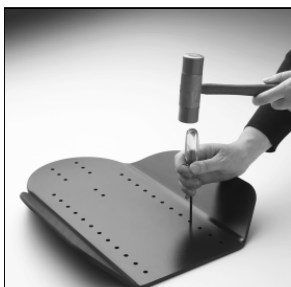
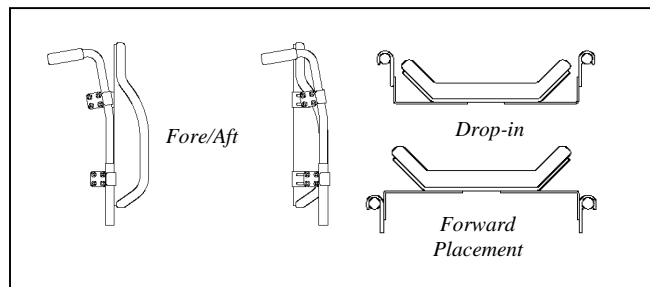
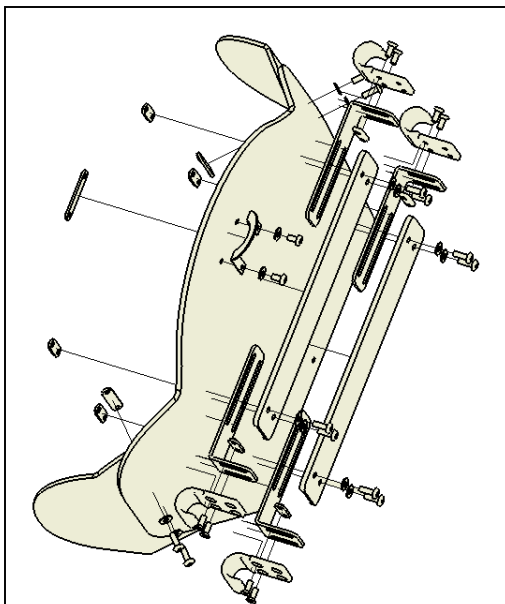

Figure 1
Figure 2
Figure 6
As seen in Figure 1, punch out appropriate partially drilled holes on the left and right hand side of the Shell (A). As displayed in Figures 2 & 3, determine correct orientation of L-brackets (D) for the desired back position/location. Attach 2 L-Brackets (D) to Shell (A) and Reinforcement Bar\*\* (J) using 4 washers, 4 Bracket to Shell Screws (F) and 2 Weld Nuts. Repeat for 2 remaining L-Brackets. This assembly is illustrated in Figure 6.
**Fore/Aft:** The L-Brackets (D) can be mounted in 2 directions to allow for Drop-In or Forward placement of the Shell to the wheelchair push handles as seen in Figures 2 & 3.